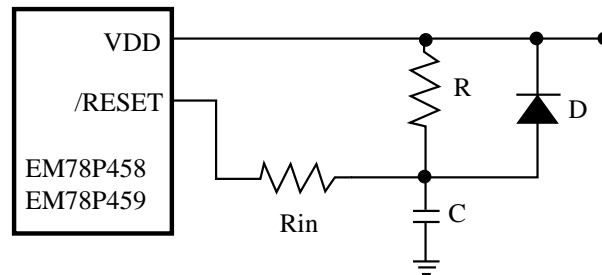

Fig. 22 External Power-up Reset Circuit
The circuit shown in Fig. 22 implements an external RC to produce the reset pulse. The pulse width (time constant) should keep long enough until V_{dd} has reached minimum operation voltage. This circuit is used when the power supply has slow rise time. Because the current leakage from the /RESET pin is about $\pm 5\mu\text{A}$, it is recommended that R should not be greater than 40 K. In this way, the voltage in pin /RESET will be held below 0.2V. The diode (D) acts a short circuit at the moment of power-down. The capacitor, C, will be discharged rapidly and fully. R_{in}, the current-limited resistor, protects against a high discharging current or ESD(electrostatic discharge) flowing to pin /RESET.